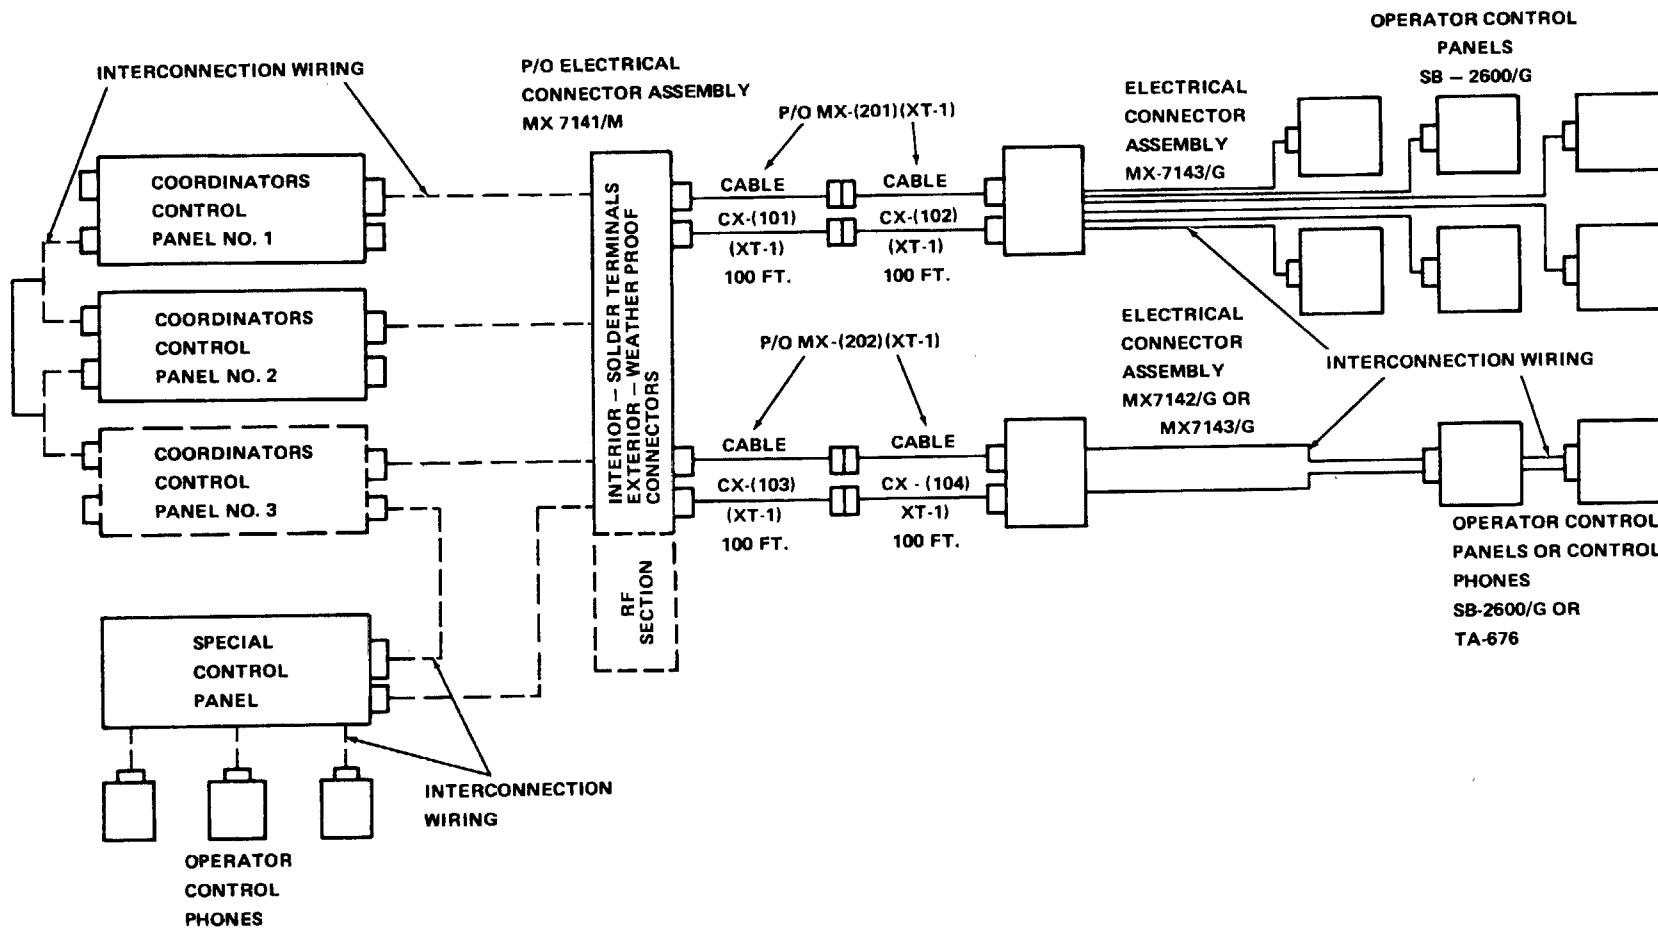

Figure 3-6. Cable and Block Diagram, System Intercom Operation, Typical
- (1) Connect Radio Receiver R-390A/URR as outlined in paragraphs 3-3m(2)(a) and (b).
- (2) See TM 11-5820-358-35 to set up receiver for teletypewriter reception.
- (3) See TM 11-5815-206-12 for terminal equipment required between receiver and teletypewriter to convert receiver output into dc pulses for teleprinter.
m. Recording and Recorder Monitoring. Input to a Monitor Control Panel SB-2600/G may come from either of two Radio Receivers R-390A/URR. Output from an SB-2600/G may go to either of two recorders. Only one recorder at a time may be controlled by an SB-2600/G. By using parallel connecting cables to a second SB-2600/G, two recorders may be controlled at the same time and either R-390A/URR may be selected for either recorder. The operator can also provide input to a recorder using the MIKE DUB on the respective SB-2600/G. The operator can monitor input to each recorder at the left earpiece of the respective SB-2600/G headset. Recorder input is also available on the central station monitor line. See figure 3-6 for a typical hookup. An example follows: